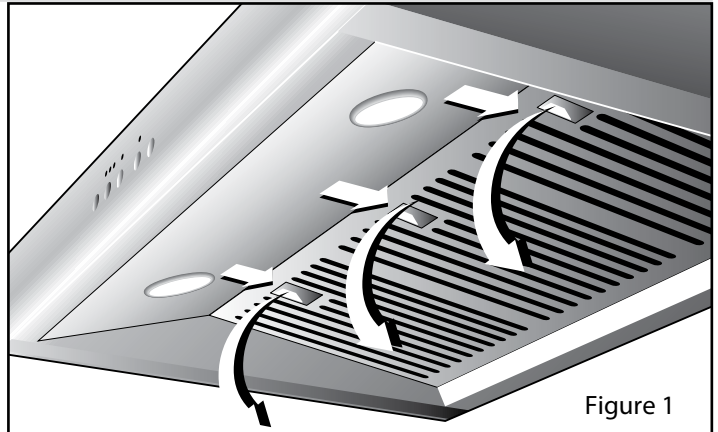

Figure 1
- Push each handle towards the back and pull downwards. **Figure 1**